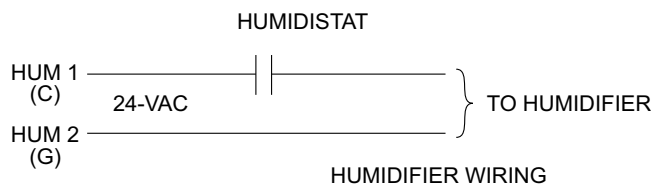
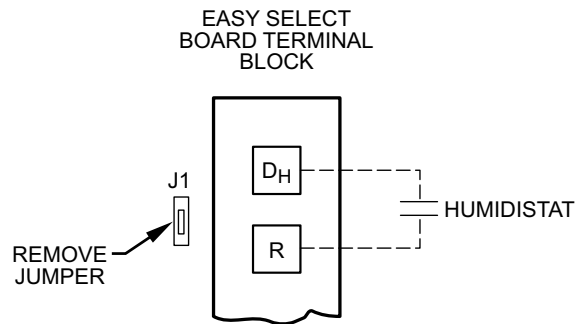

Fig. 26 – Humidifier Wiring
Fig. 27 – Humidistat Wiring for De-Humidify Mode
Easy Select Board terminals HUM1 and HUM2 are provided for direct connection to the low-voltage control of a humidifier through a standard humidistat (see Fig. 26). These terminals are energized with 24VAC when G thermostat signal is present (see Fig. 27). Alternately, the 24VAC signal may be sourced from the W and C terminal block connections when electric heaters are used as primary heating source.
Latent capacities for systems using the Fan Coil are better than average systems. If increased latent capacity is an application requirement, the field wiring terminal block provides connection terminals for use of a standard humidistat. The Fan Coil will detect the humidistat contacts opening on increasing humidity and reduce its airflow to approximately 80% of nominal cooling mode airflow. This reduction will increase the system latent capacity until the humidity falls to a level which causes the humidistat to close its contacts. When the contacts close, the airflow will return to 100% of the selected cooling airflow. To activate this mode, remove Jumper J1 and wire in a standard humidistat (see Fig. 27).
5. Verify low-voltage control signals to motor. The motor receives its control signals through the 12-pin plug (PL-1) on Easy Select Board and 16-pin plug on wiring harness (see Troubleshooting Example). The combinations of pins energized will determine motor speed (see Fig. 27). See Fig. 24 for circuit board, low-voltage screw terminals energized and for voltage present at each pin on 12-pin plug (PL-1). See Fig. 24 for pin number on 16-pin plug which should have voltage when Easy Select Board screw terminals have 24VAC.